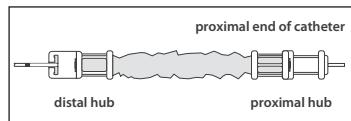

Figure 3
3. Insert tip of desired catheter through proximal end of catheter contamination shield. Advance catheter through tubing and hub at other end (refer to Figure 3).